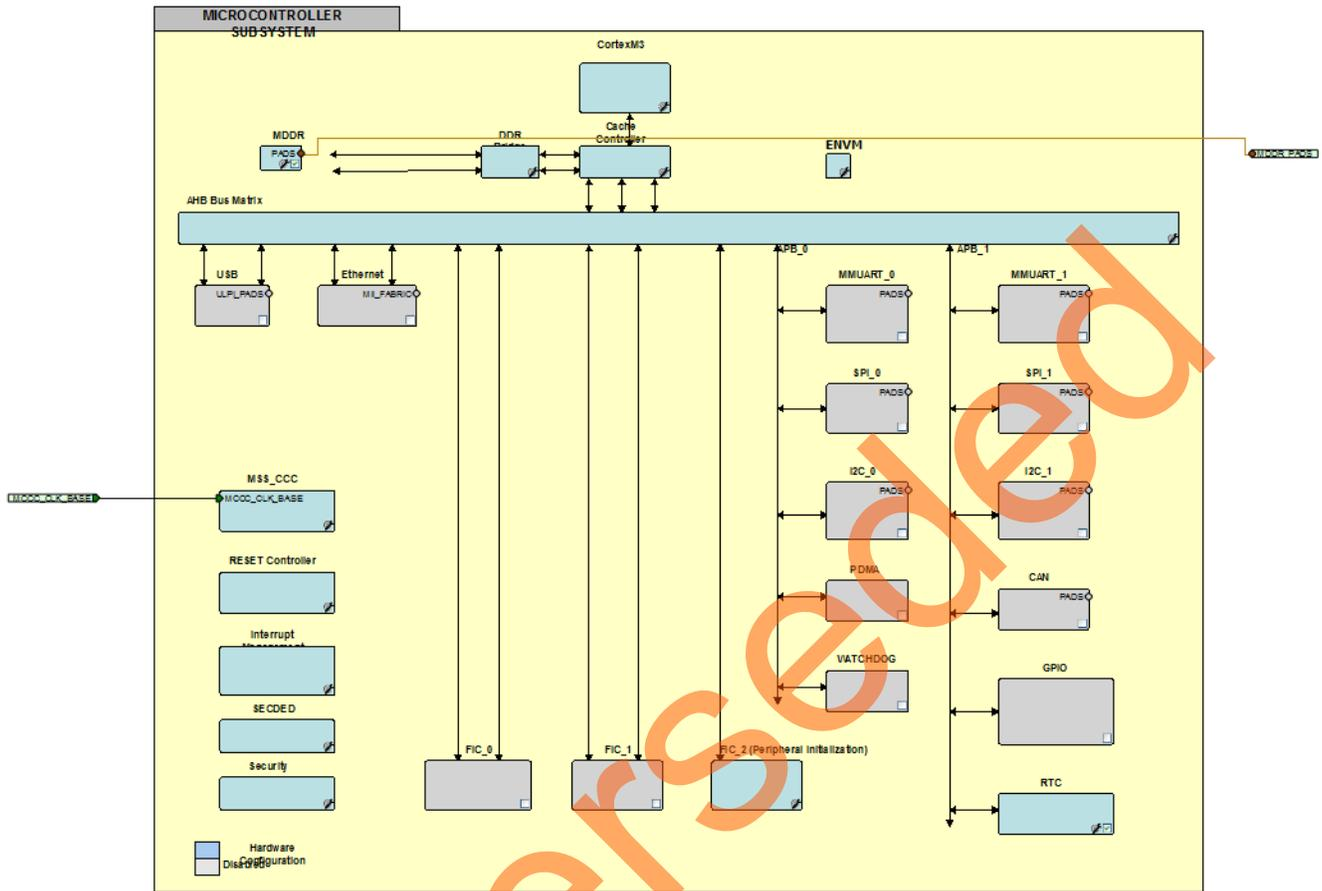

Figure 10. Enabled and Disabled MSS Components
Figure 10 shows the **MSS Configuration** window (after disabling the above components).
3. Double-click the **MDDR** block and configure as shown in Figure 10.